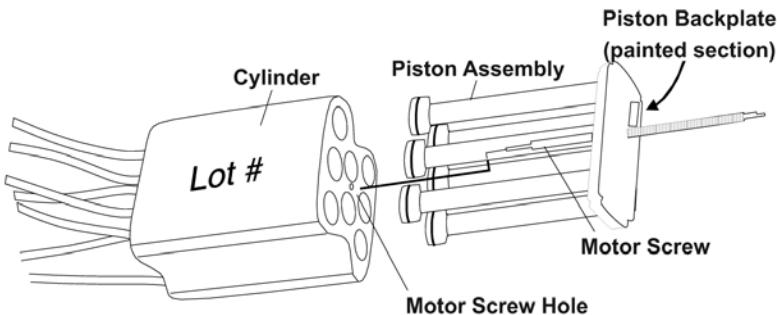

Figure F.1.4a: Reassemble Piston/Cylinder Assembly
1. **Reassemble Piston/Cylinder Assembly** Reinsert the piston assembly into the lubricated cylinder. Ensure that the motor screw engages into the hole in the center of the cylinder (see Figure F.1.4a).